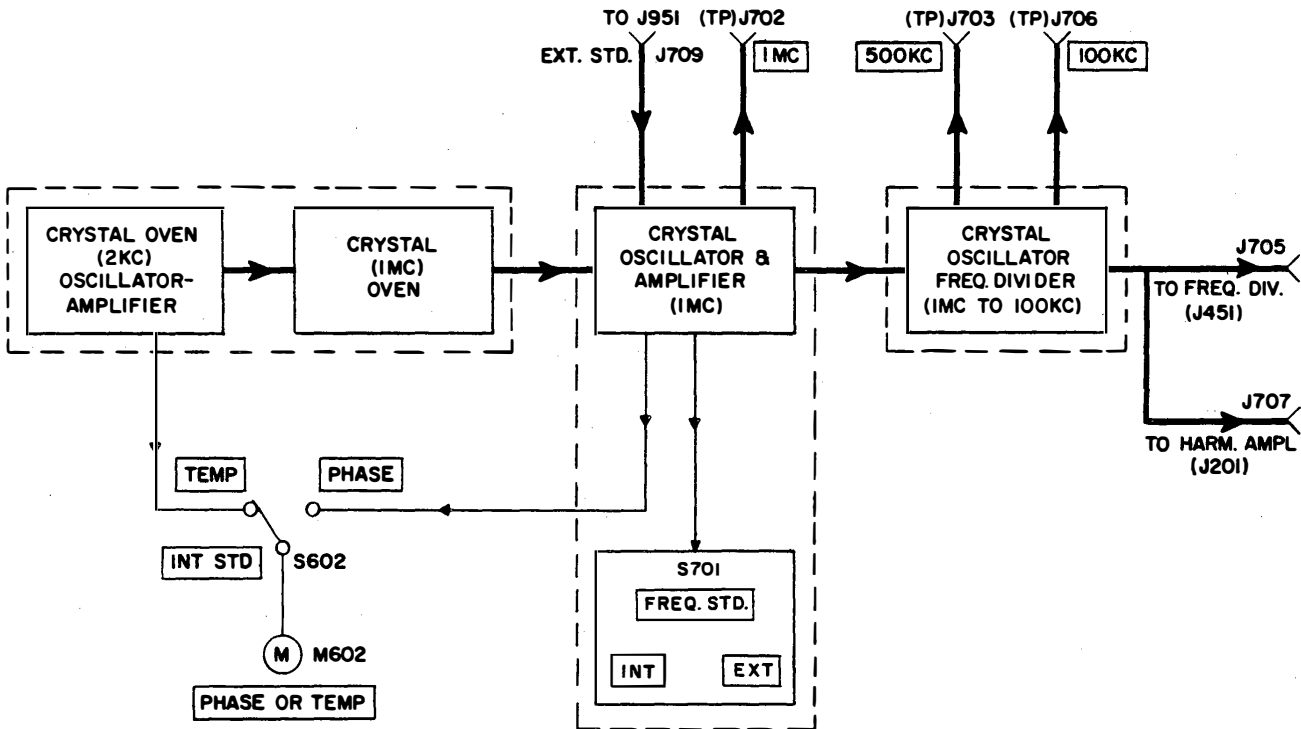
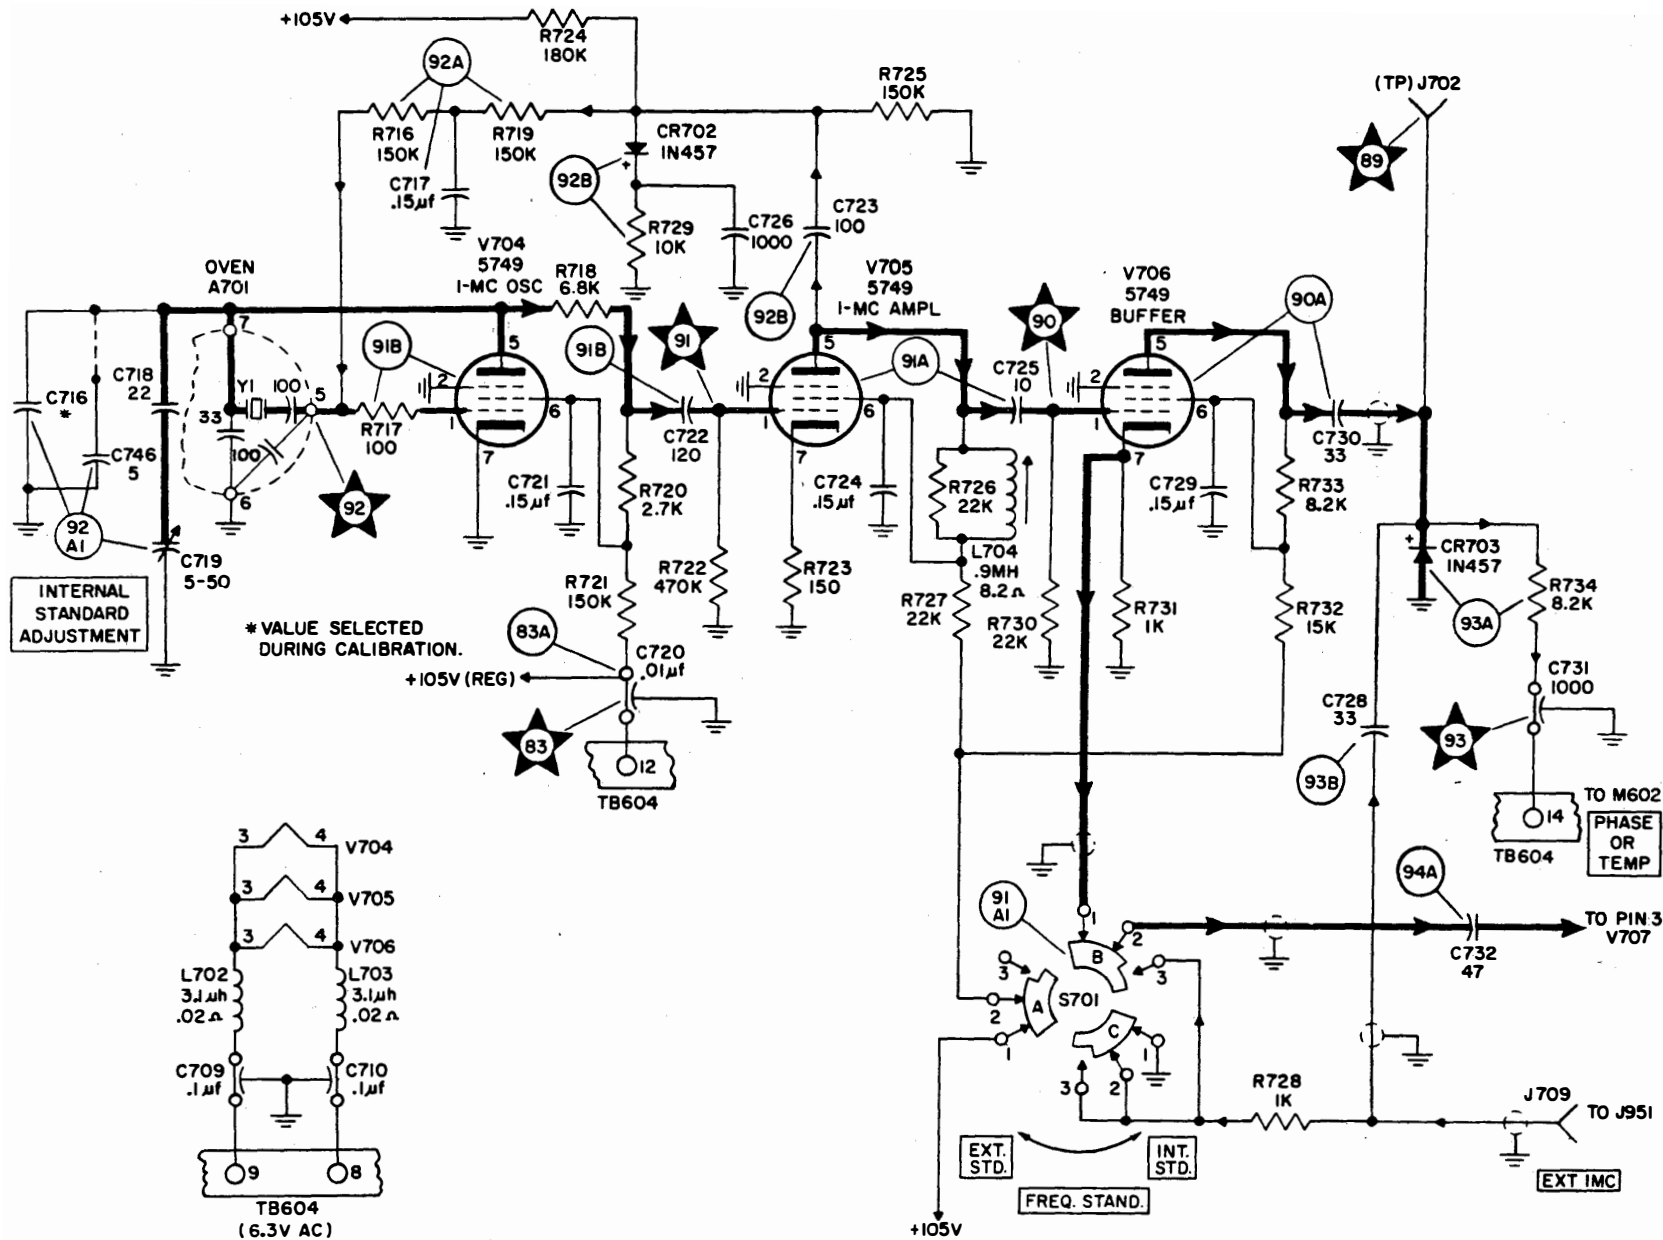

Figure 5-51. Crystal Oscillator, Functional Block Diagram
Figure 5-53. Crystal Oscillator, Crystal Oscillator-Amplifier, Functional Schematic Diagram
a. GENERAL.—The crystal oscillator subassembly (figure 5-51) contains three circuit sections—the crystal oven oscillator and amplifier (figure 5-52), the crystal oscillator and amplifier (figure 5-53), and the crystal oscillator frequency divider (figure 5-54). For a complete schematic diagram of the crystal oscillator subassembly, refer to figure 6-17.
Figs. 5-51 to 5-56